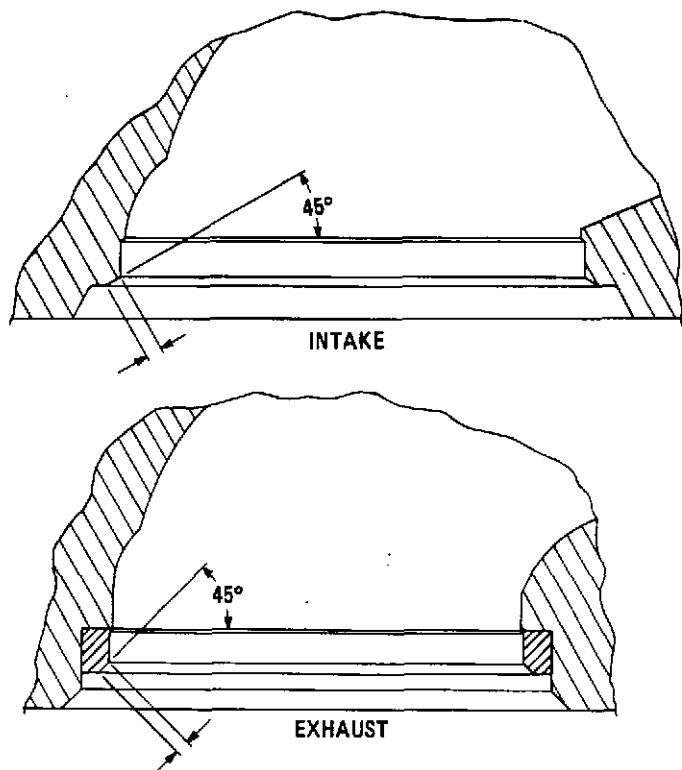

Figure 5-25. Valve Reseating Dimensions
2. If the valve seats are pitted or if new valve guides have been installed, the seats must be refinished. The intake valve seats are finished on a 45-degree angle and the exhaust valve seats are finished on a 45-degree angle. Use a vibrating angle grinder-type reseating tool with a 3/8-inch diameter pilot. Lightly lubricate and install the pilot into the valve guide bore. Lower the grinder head over the pilot shank until the stone just clears the valve seat. Turn on the power and gently allow the stone to contact the valve seat. Very little pressure other than the weight of the stone should be used. Grind the seat sufficiently to remove shoulders and pits, and to provide an even, smooth surface. Do not grind any deeper than necessary. The finished valve seat should contact the approximate center of the valve face. Refer to figure 5-25.